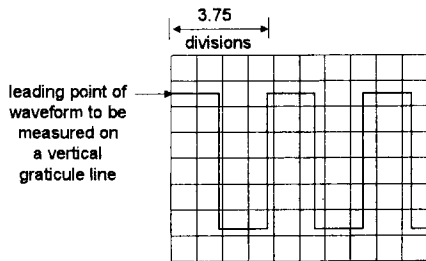

Fig. 7. Square wave period measurement
3. Move the H. POSITION control until the front part of the waveform section to be measured is on a vertical graticule line. (see Fig. 7)
6. Calculate the period by multiplying the number of horizontal divisions of the measured period times the setting of the TIME/DIV Selector. For example, the period of the pulse in Fig. 7 is 3.75 divisions. If the TIME/DIV Selector is in the 1ms/div then the period is $3.75 \text{ divisions} \times 1\text{ms/div} = 3.75\text{ms}$.